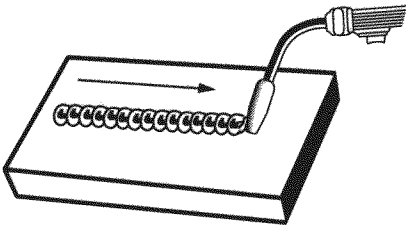

Figure 12. Stringer Bead
1. The STRINGER BEAD (Figure 12) is formed by traveling with the torch in a straight line while keeping the wire and nozzle centered over the weld joint. This is the easiest type of bead to make.